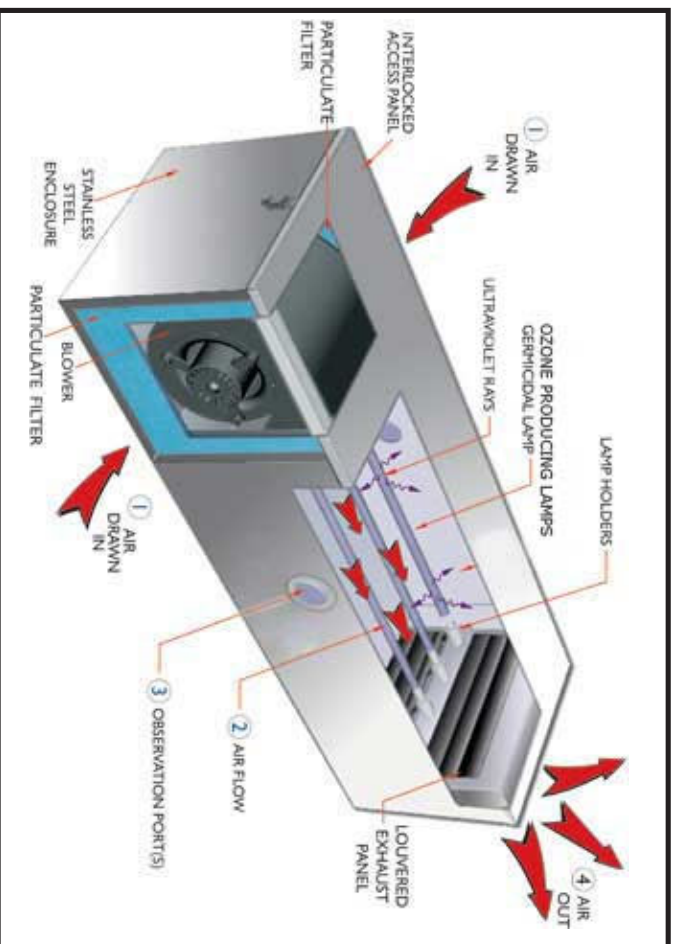

Fig. 1
- (1) Air is drawn into unit through washable electrostatic particulate filters (Fig. 1 shown is Model 6-OZ Ozone Generators 40-1503A).
- (2) Air is forced into ultraviolet exposure chamber where it is irradiated by germicidal ultraviolet light (lamp quantity varies per model).
- (3) Observation port provides positive indication of germicidal lamp operation.
- (4) Purified air and ozone leaves exposure chamber through the louvered exhaust panel (which restricts ultraviolet radiation from passing into the room).